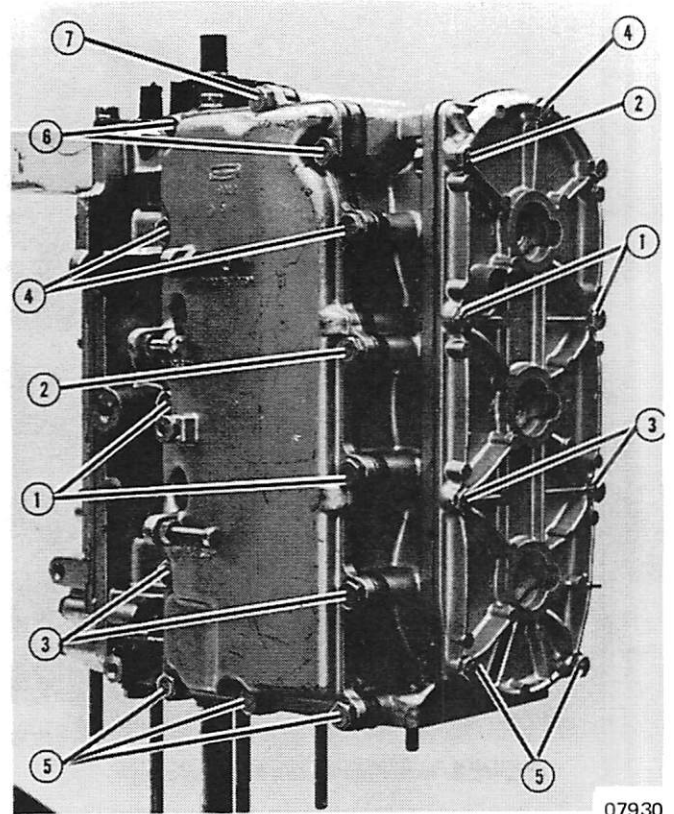

Figure 13. Correct Torquing Sequence
30. Install cylinder block cover gasket and cover (Figure 13) and torque to specification and sequence.
31. Install exhaust deflector and exhaust cover and gaskets. (Figure 13) Torque to specification.